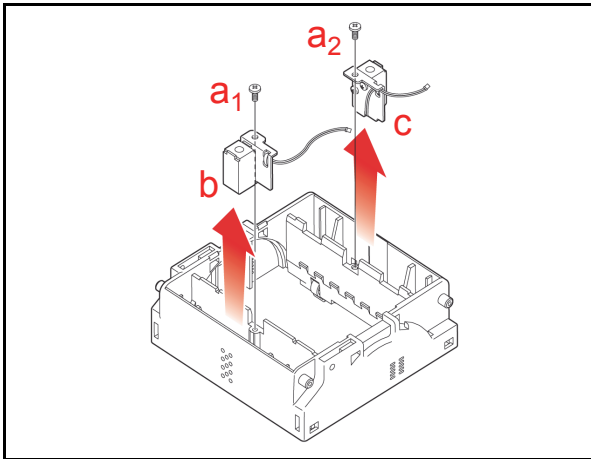

Figure 4-19 Entrance & Exit Solenoid Removal
6. Remove the two (2) Solenoid mounting screws (See Figure 4-19 a₁ & a₂) and then remove the Entrance and Exit Solenoids (See Figure 4-19 b & c).